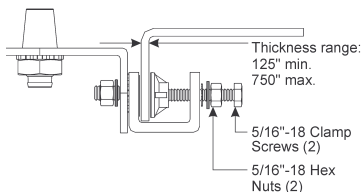

Figure 9. Mounting Location
11. Loosen two screws and two hex nuts in U-Bracket assembly. Note: Installation on tubular surface is NOT recommended. Insert Air Dam Shield edge between the U-Bracket Assembly and Clamp feet. See Figure 9.
13. Tighten two 5/16"-18 Hex Nuts securely up against clamp bracket, See Figure 9.